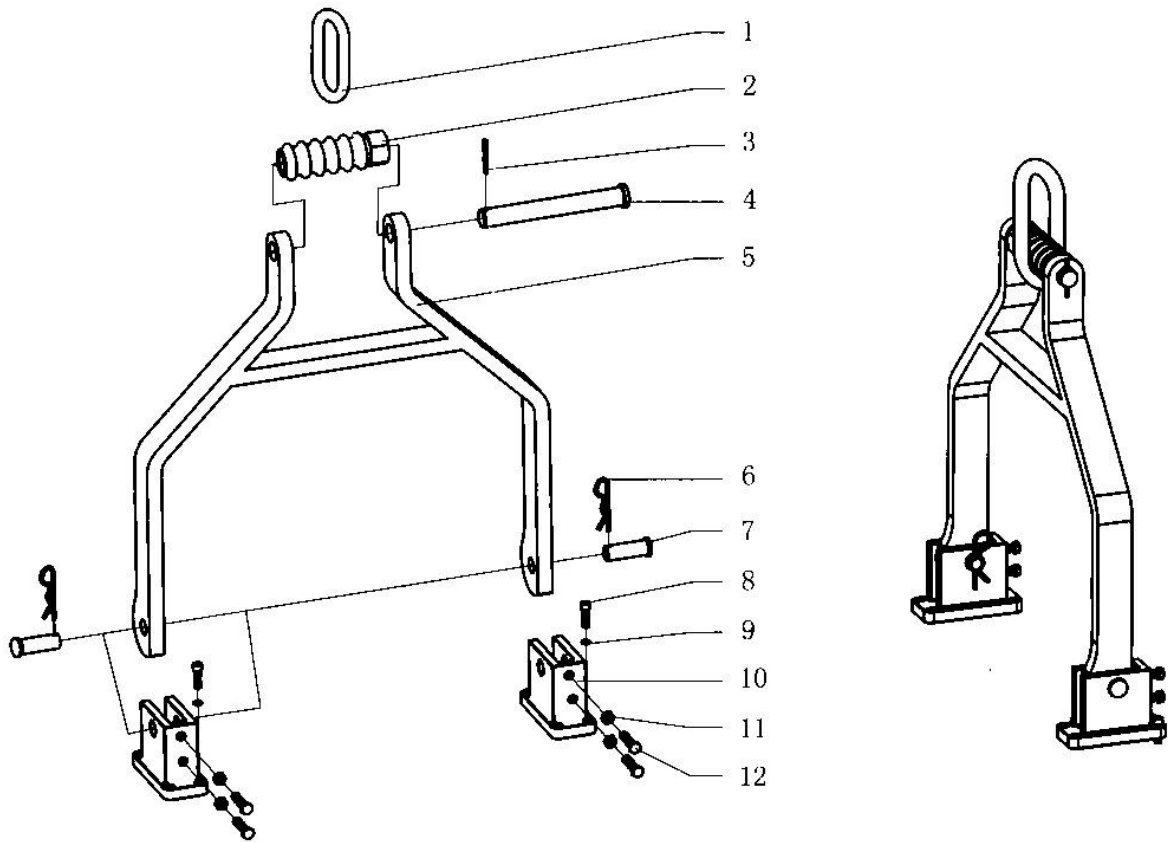

Fig. 20
2. Assembly of suspension rod (Fig20, Table 17)